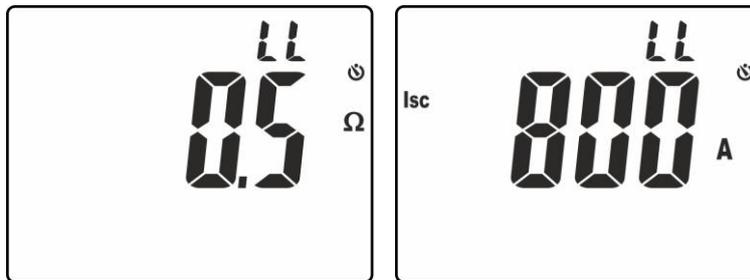

Fig. 28: Results of Loop L-L impedance measurement
12. The screen in Fig. 28 – left side, shows the value of Loop L-L impedance. Press keys $\blacktriangledown/\Sigma$ or \blacktriangle to display the value of the assumed short-circuit current **Isc** (see § 9.3)